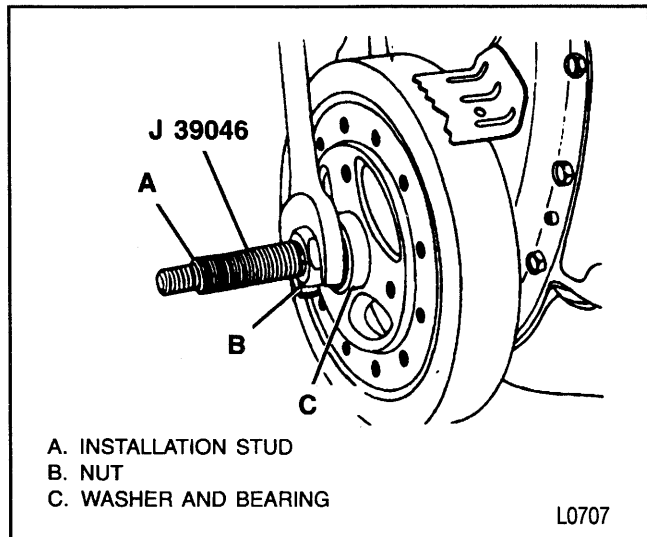

Figure 22—Installing the Torsional Damper
3. Stud (item A, figure 22) to the crankshaft. Thread the stud fully into the tapped hole in the crankshaft.
5. Bearing, washer, and nut (figure 22).